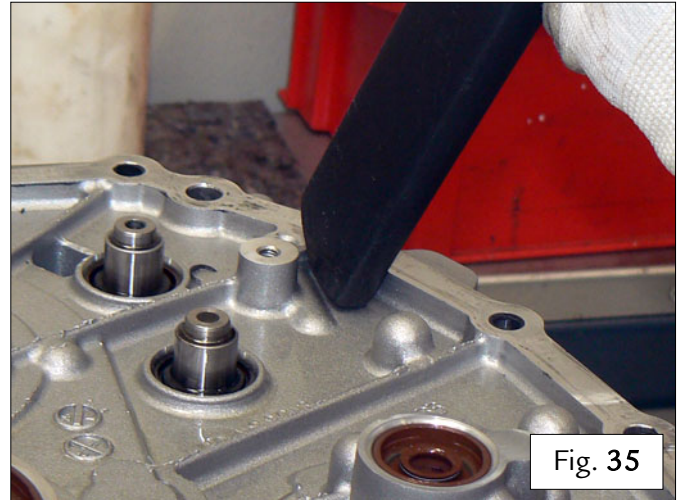

Fig. 35
- Aspirate all residue of adhesive and/or dirt from the surfaces of the interface plate and from the differential housing – Fig. 35.